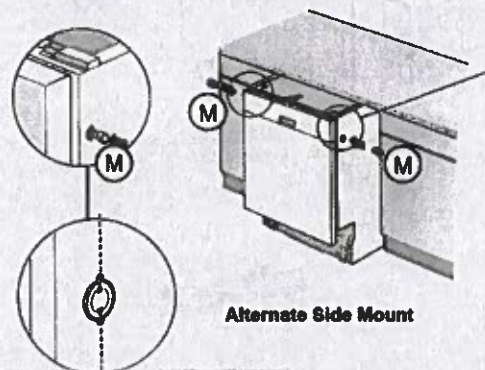

Figure 19
**Alternate Side Mount** for opening  $23\frac{5}{8}''$  (600 mm). Insert a side mount force distributor (M) in each side as shown in Figure 19.